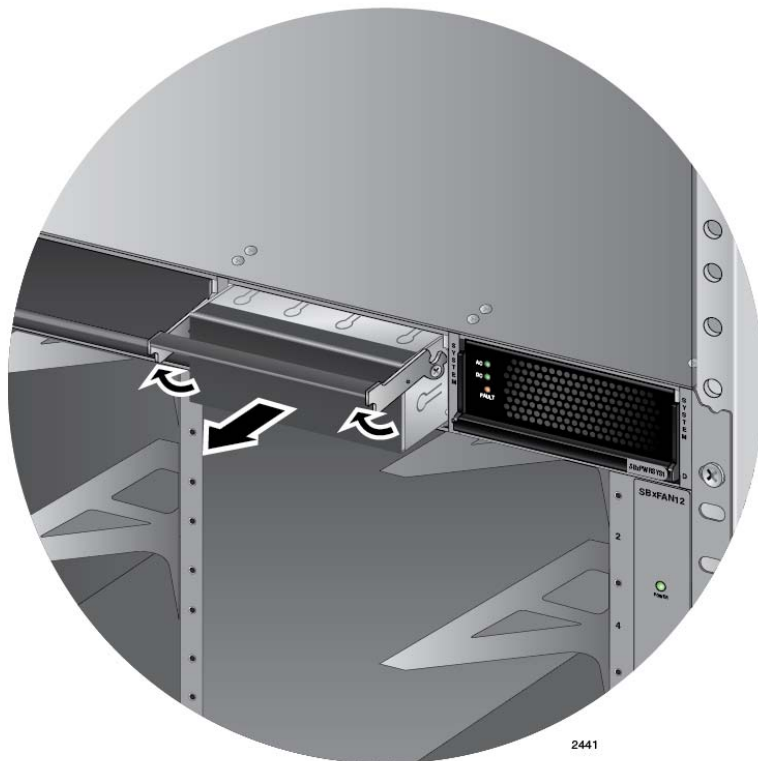

Figure 42. Removing the Blank Slot Cover from Power Supply Slot C
2. If the chassis already has a power supply in slot D, remove the blank power supply panel from slot C by lifting the blank panel handle and sliding it out of the slot, as shown in Figure 42.